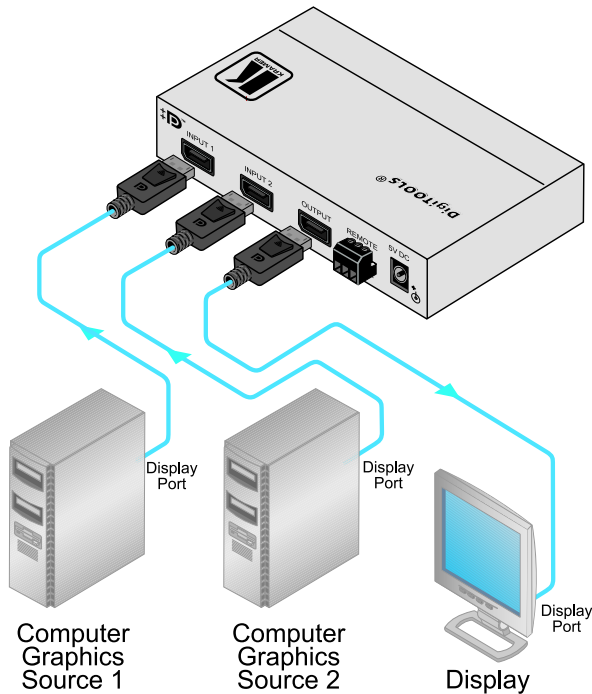

Figure 2: Connecting a VS-21DPIR 2x1 DisplayPort Switcher
To connect the **VS-21DPIR**, as the example in Figure 2 shows, do the following1:
3. Connect the 5V DC power adapter to the power socket and connect the adapter to the mains electricity (not illustrated in Figure 2).